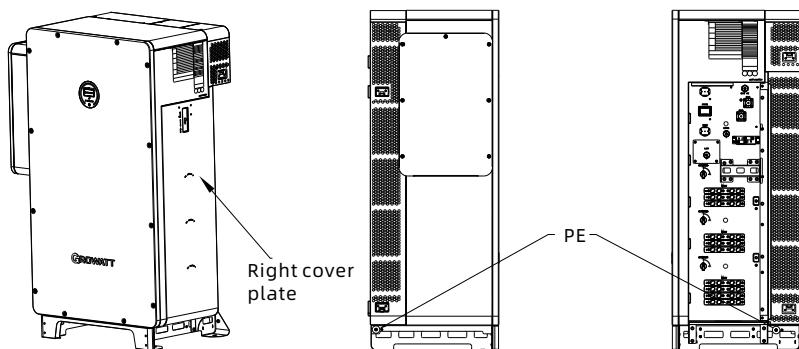

Fig 6.1 Ground points
4. The position of the ground points of the WIT 28-55K-HU-US L2 Storage/Hybrid Inverter is shown in fig 6.1. You can find the ground points after removing the right cover plate.
1. Open the right cover plate of the WIT inverter, the position of which is shown in Fig 6.1;
4. Open the cover plate on the right side of the inverter, the position of which is shown in Fig 6.1.